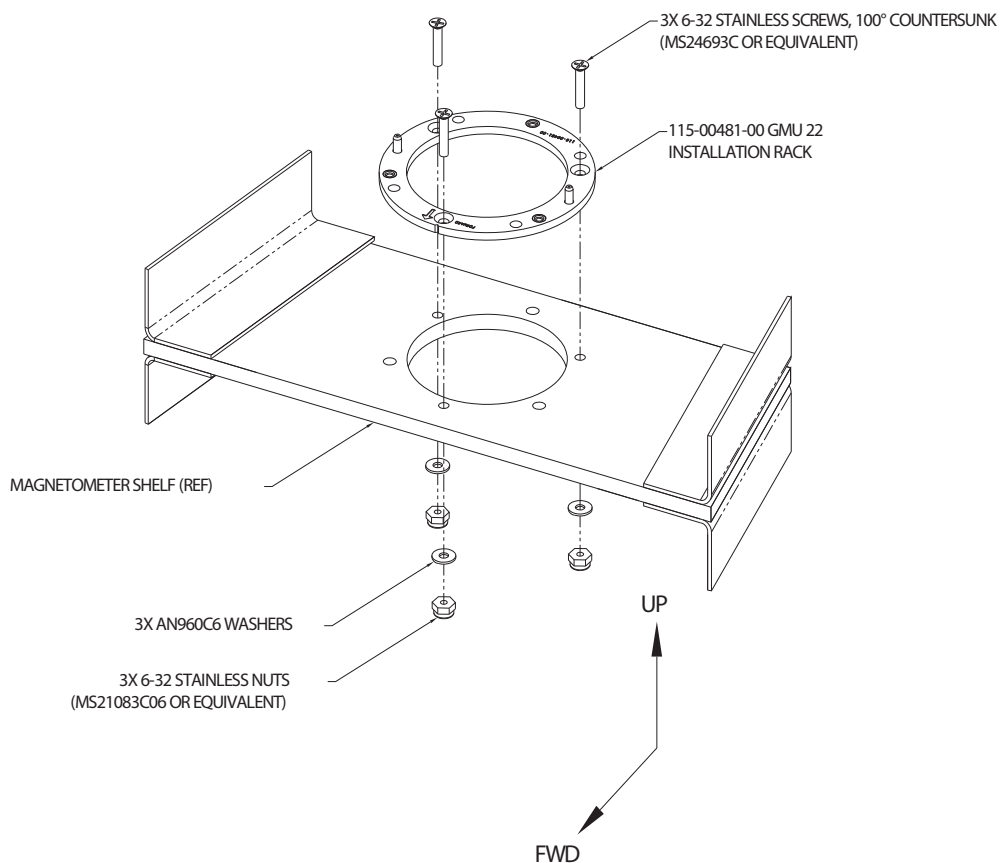

Figure A-27 Assembly Of GMU 22 Installation Rack To Magnetometer Shelf
7. Assemble the GMU 22 Installation Rack to the magnetometer shelf as shown in Figure A-27.